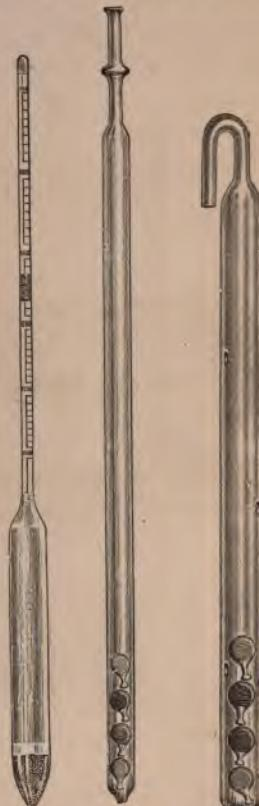

Fig. 14. Fig. 15. Fig. 16.
*Accumulator Hydrometer Instruments.*—While on the subject of instruments for testing accumulators note may be made of the kinds of hydrometers commonly employed by attendants of storage batteries. Fig. 14 represents the usual form of open scale hydrometer with a flattened bulb. It scales from 1·075 to 1·300, an ample range for accumulator work, according to its height floating in the solution. The later form of "bead" hydrometers, Figs. 15 and 16, contain four coloured glass beads, which float at the following densities respectively 1·1050, 1·170, 1·190, and 1·200. These are, of course, more easily read in a poor light than the scale instruments. Fig. 15 is made much longer, for use in storage cells contained in teak boxes, as used aboard ship, and is known as the ship hydro-